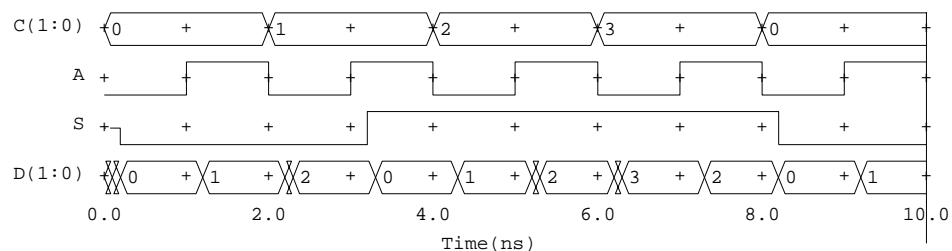

Figure 2: Results of simulation with QuickSim II
- Click on the **STIMULUS** button in the **Setup** palette and use the **PATTERN GENERATOR** to specify input waveforms for **C**. Refer to Figure 2 for inspiration.
An example of simulation results is given in Figure 2. Note that the output signals need